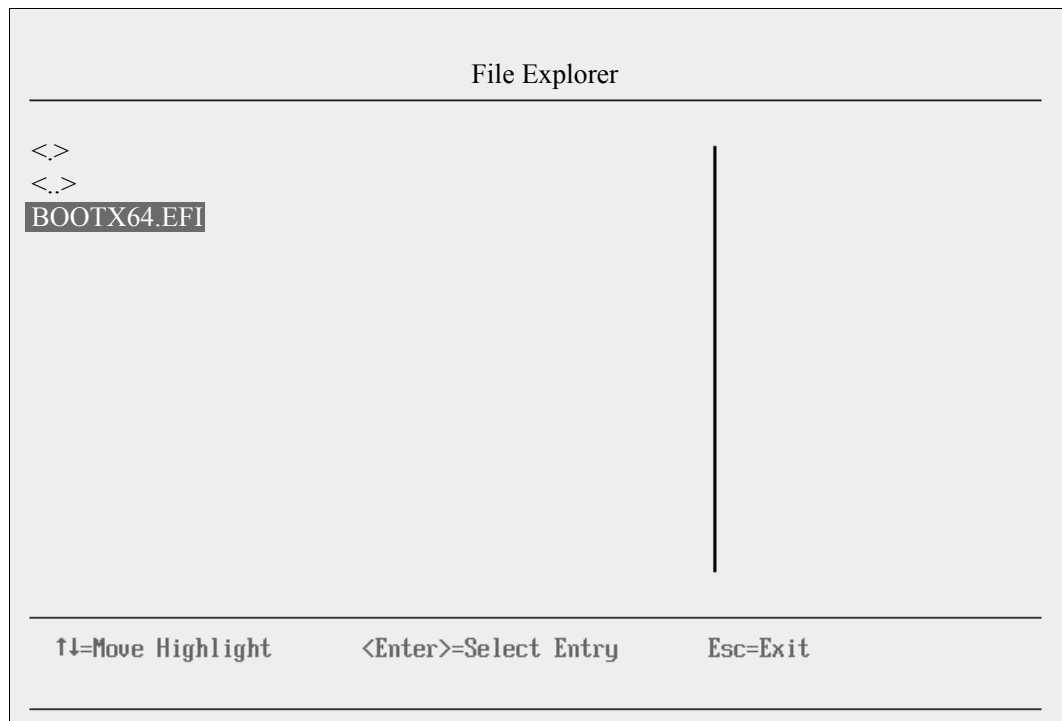

Figure 9-162 Selecting the BOOTX64.EFI file
- Now that you are browsing the DVD, select **EFI**, select **BOOT**, and then select **BOOTX64.EFI** (Figure 9-162). This file name might be different if you are booting other versions of Windows, VMware, or Linux.